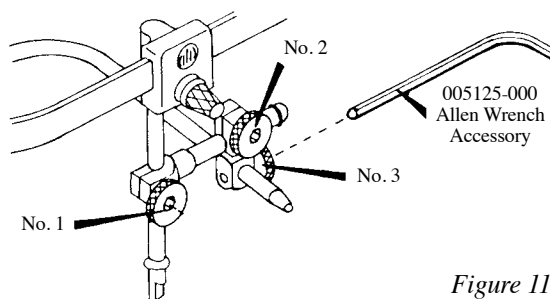

Figure 11
- During patient recording OR immediately upon removal of the Bow assembly from the patient, the Thumbscrews may additionally secured by a Wrench. Tighten the socket screw head of the Thumbscrew in the absolute order of No.1, No. 2, and No. 3 illustrated, Figure 11.